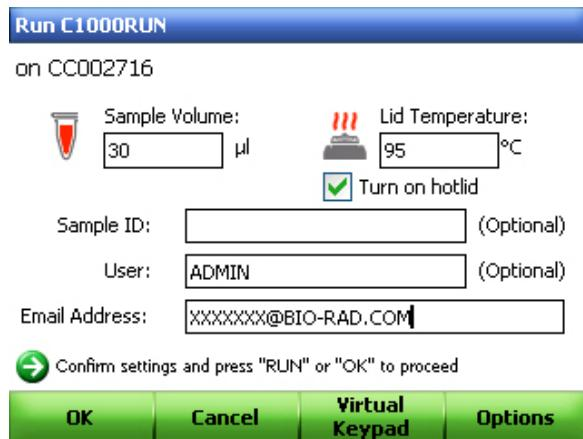

Figure 49. Confirming sending an email notification.
5. Click **OK** (F1) to continue to run the assay (Figure 49).